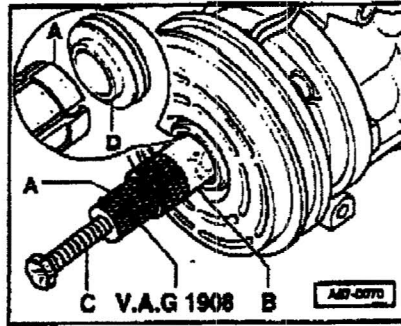

Fig.1 Flange Seal (with collector ring-counter support), removing and installing
- ◆ Removing and installing, ⇒ Fig. 1